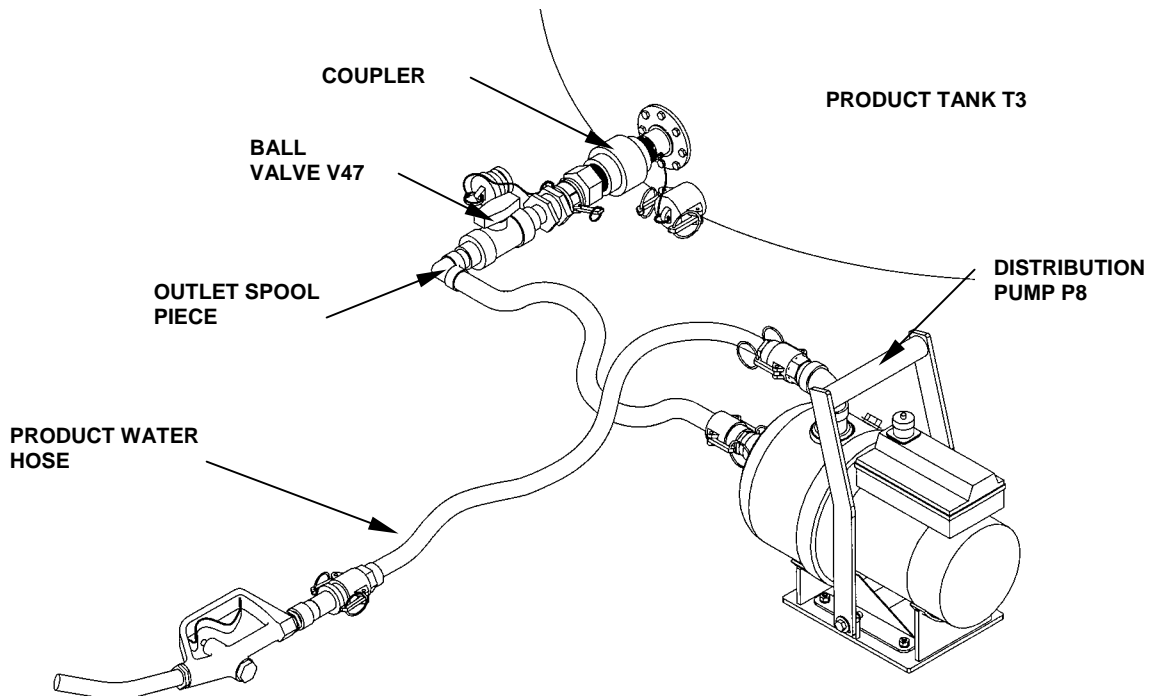

Figure 1. Product Tank Distribution Setup.
2. Make sure the product tank outlet valve V47 is open. See Figure 1.